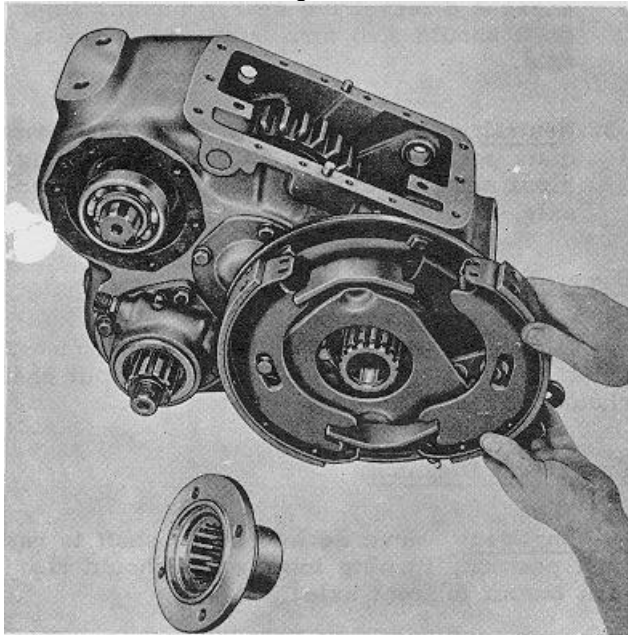

Fig. 39.
31. Position brake shoes on backing plate with actuating pawl in web slot (Fig. 39).